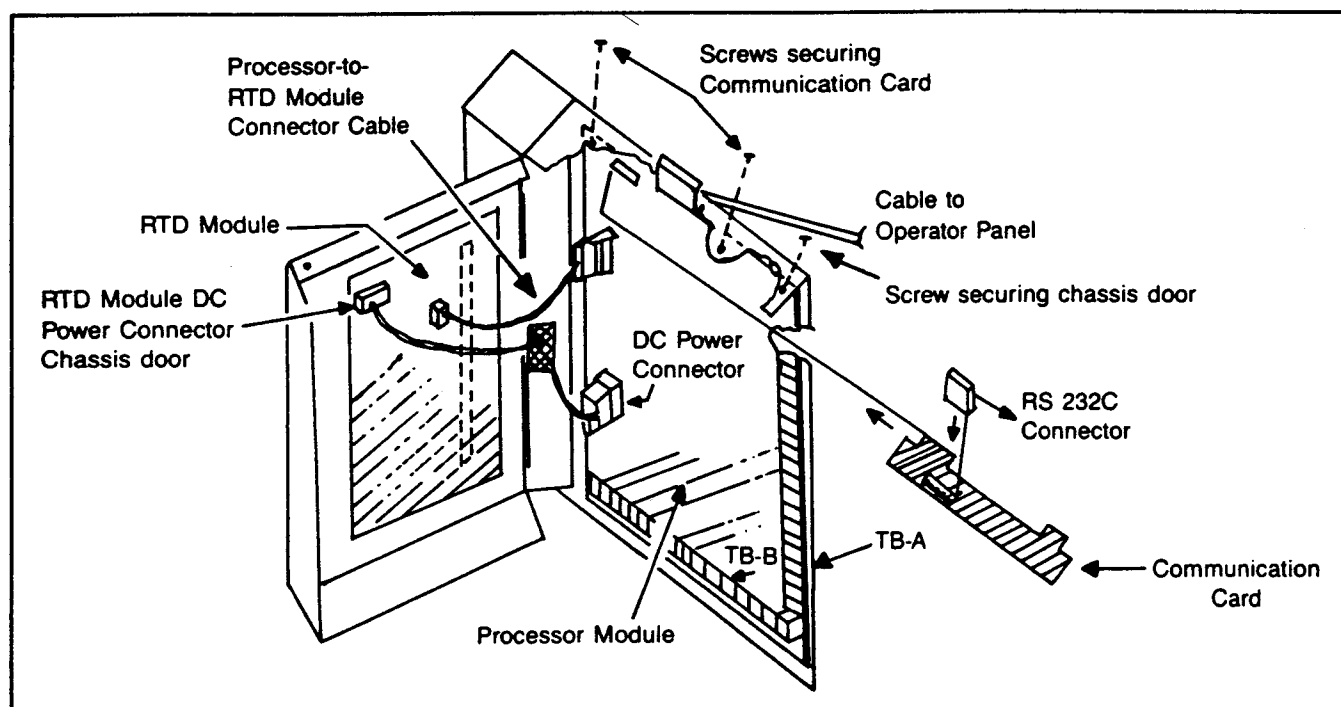

Figure 8.1 — IQ-2000 Chassis
Step 3 — Remove the screw securing the Chassis door of the IQ-2000, and open the door. (See Figure 8.1.)
Step 6 — Unscrew the 2 flat-head screws securing the cable connected between the Processor Module and the Operator Panel. (See Figure 8.1.) Note: alternately turn each screw a few turns CCW to prevent the connector from being skewed and damaging the pins.
Step 9 — Remove the 2 screws securing the Communication Card to the chassis of the IQ-2000. (See Figure 8.1.)
Step 3 — Verify that all wires connecting to the terminals of terminal block TB-R are clearly marked and it is clear which terminal relates to the designations. (See Figure 8.1.)